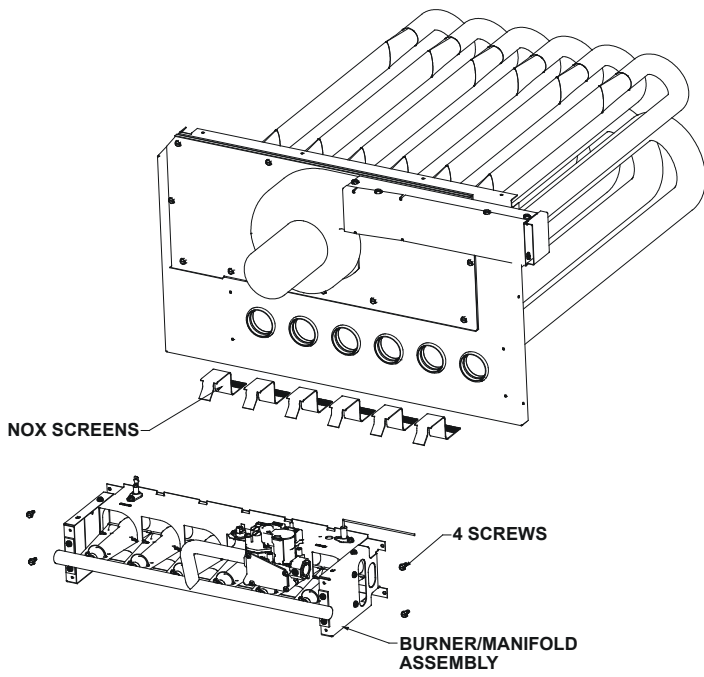

FIG.1 Typical NOx Screen Removal for 3 to 6 Ton Models
4. On 3 to 6 ton models remove NOx screens, see Figure 1. There are no screens on other models.